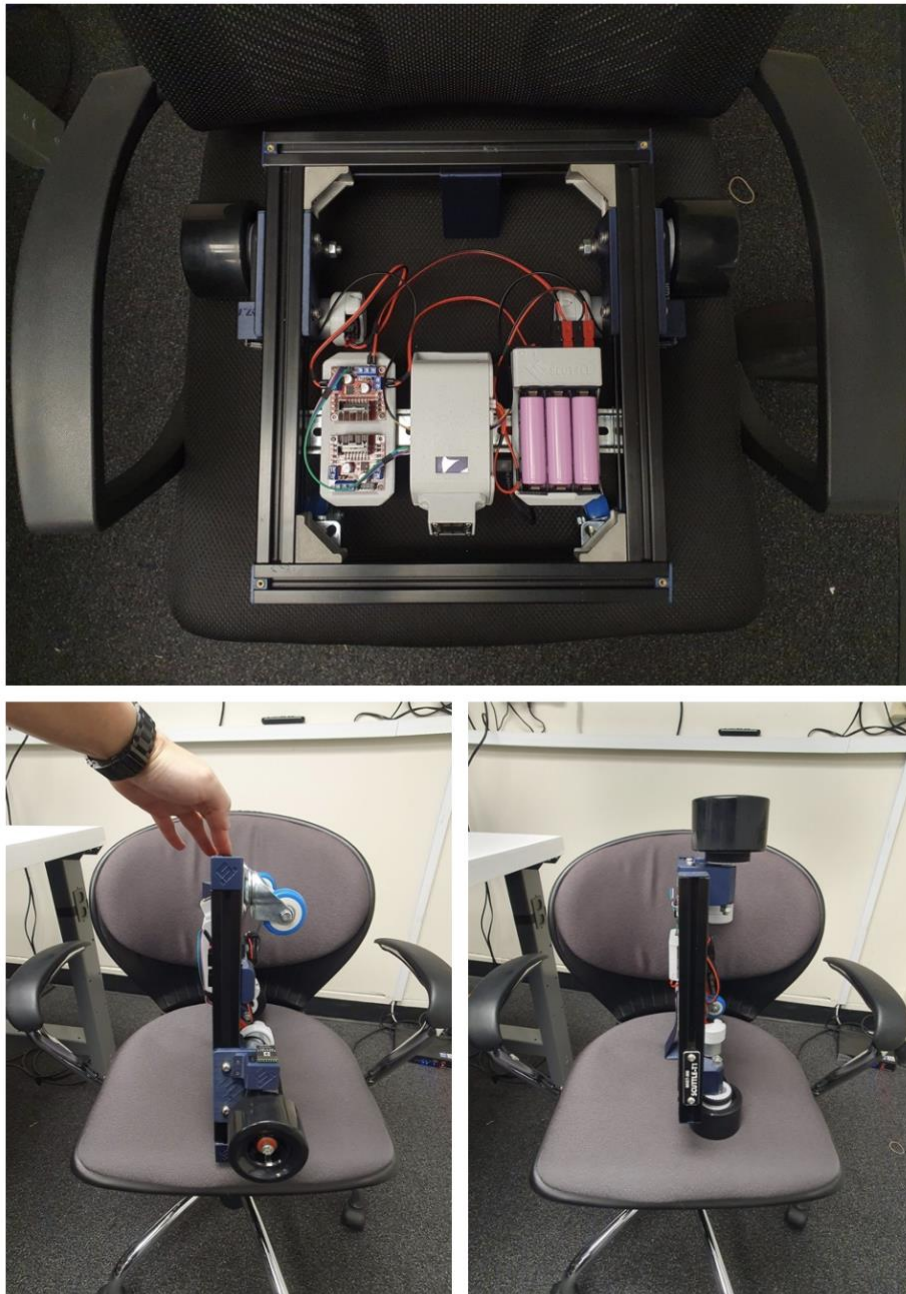
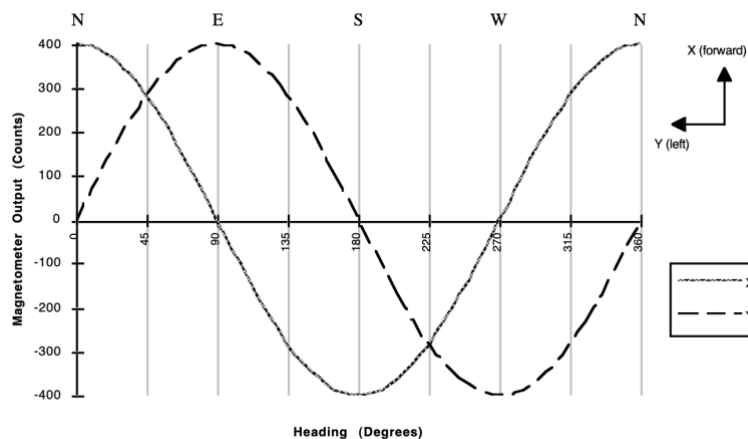

Figure 3: Put your SCUTTLE on a swivel chair and gently
Figure 5: X and Y Magnetometer Readings for Different Compass Headings
10. Now you will need to calibrate the magnetometer this will be done while running the next cell of code. Run the next cell of code. This is the first cell under the “Using Magnetometer Reading To Get A Compass Heading”. While it is running you will use your hands to gently and at a moderate pace rotate the entire SCUTTLE 10 times clockwise **AND** 10 times counterclockwise about **ALL three** of its axes (x,y,z). Place your SCUTTLE in a swivel chair like it is shown in figure 3 and rotate the chair so that the SCUTTLE rotates about as if it were a compass.
13. Run the final cell under “Calculate A Compass Heading”. While the final cell is running, place your SCUTTLE in a swivel chair like it is shown in figure 3 (top) and rotate the chair so that the SCUTTLE rotates at Z axis about as if it were a compass. You will be able to see the plot change and see how the compass heading changes. The second subplot shows the X and Y readings intersect respectively. It should be like figure 5.